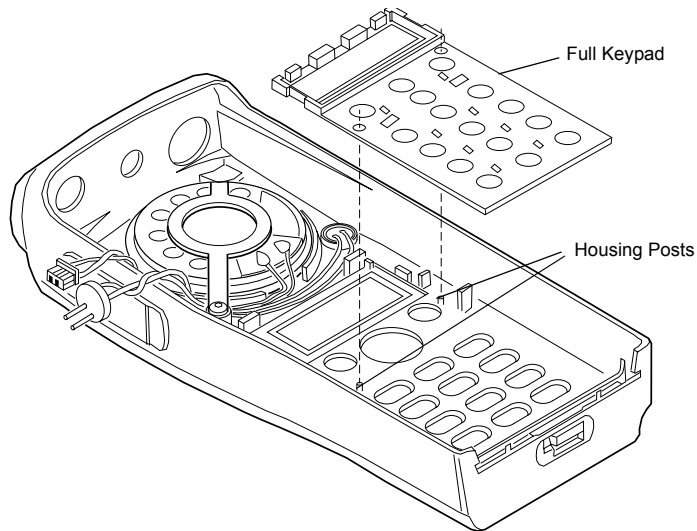

Figure 6-14. Keypad Re-assembly
3. Install the new keypad into the housing. Use the two housing posts for keypad alignment (Figure 6-14).